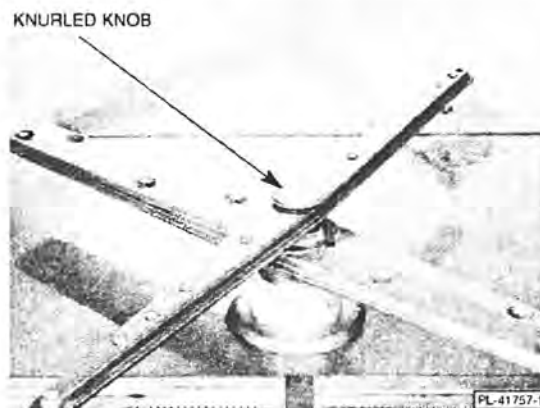

Fig. 10
2. Remove the lower rinse arm by unscrewing the knurled knob (Fig. 10). Remove the lower wash arm by pulling the arm off the shaft. Remove the upper rinse and wash arms in the same manner. Remove the coarse and fine strainers. (See Figs. 7 and 8). Thoroughly clean these items in a sink. Remove debris from wash/rinse arm nozzles.